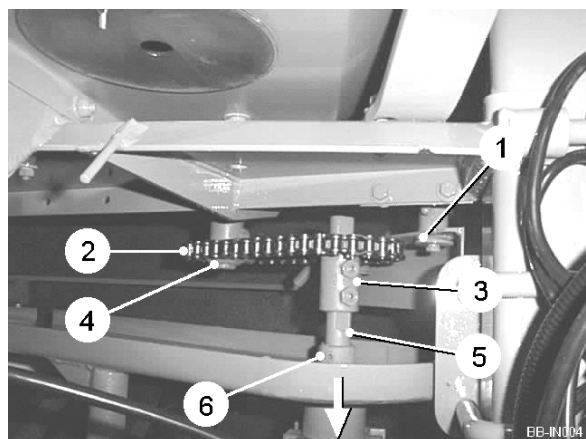
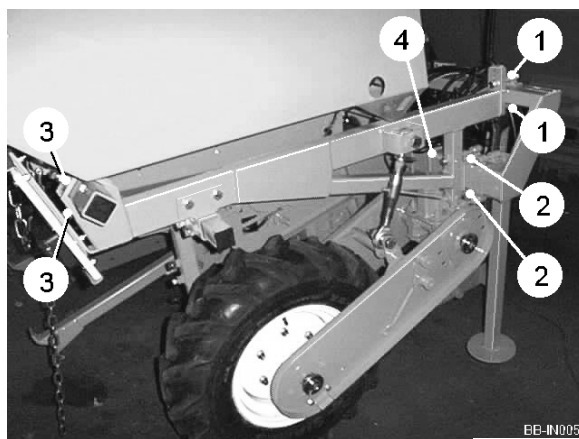

Fig 2
Fig 3
Loosen the chain tensioner (item 1, figure 2) and remove the drive chain (item 2, figure 2) (machines with manual space selector only). Loosen the LH and RH wheel unit frame securing bolts (item 1, 2 & 3, figure 3) and soil retention panel front mounting 'U' bolts (item 4, figure 3). Slide the wheel units soil retention panel mountings to the required setting ensuring they are adjusted equally about the machine centre-line. When in position, retighten the securing bolts (item 1, 2 & 3, figure 3) and 'U' bolts (item 4, figure 3). Loosen the drive sprocket (item 3, figure 2) and reposition it to align with the driven sprocket (item 4, figure 2). Ensure the retaining bolts locate firmly on the drive shaft flat. Finally, refit the drive chain (item 2, figure 2) and set it to the correct tension by adjusting the chain tensioner (item 1, figure 2).
Depending on the row width setting and wheel setting, a different drive shaft (item 5, figure 2) may be required. When built, the planter will have been set-up for the customers original requirements and therefore supplied with the correct drive shaft.
Loosen the chain tension roller (item 1, figure 2) and remove the drive chain (item 2, figure 2). Loosen the drive sprocket (item 3, figure 2) and adjacent locking collar (item 6, figure 2) and withdraw the drive shaft in the direction of the arrow. Reassemble using the correct length of drive shaft.